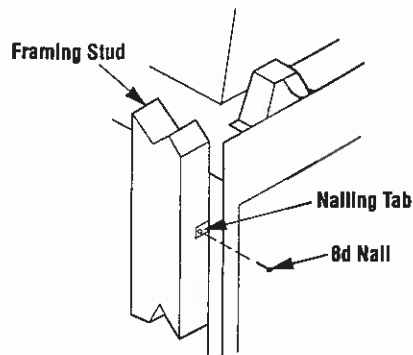

Figure 18
Step 5. Fireplace should be secured to side framing members using the full length nailing tabs at the top and bottom of the fireplace front face. Use 8d nails or equivalent (Figure 18).